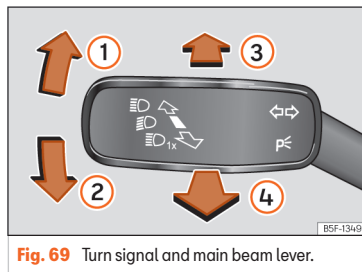

Fig. 69 Turn signal and main beam lever.
- From the neutral position, press the turn signal and main beam headlights lever forwards >>> Fig. 69 .
- **EITHER:** if main beam assist is on, pull the turn signal light and main beam headlights lever back >>> Fig. 69 .